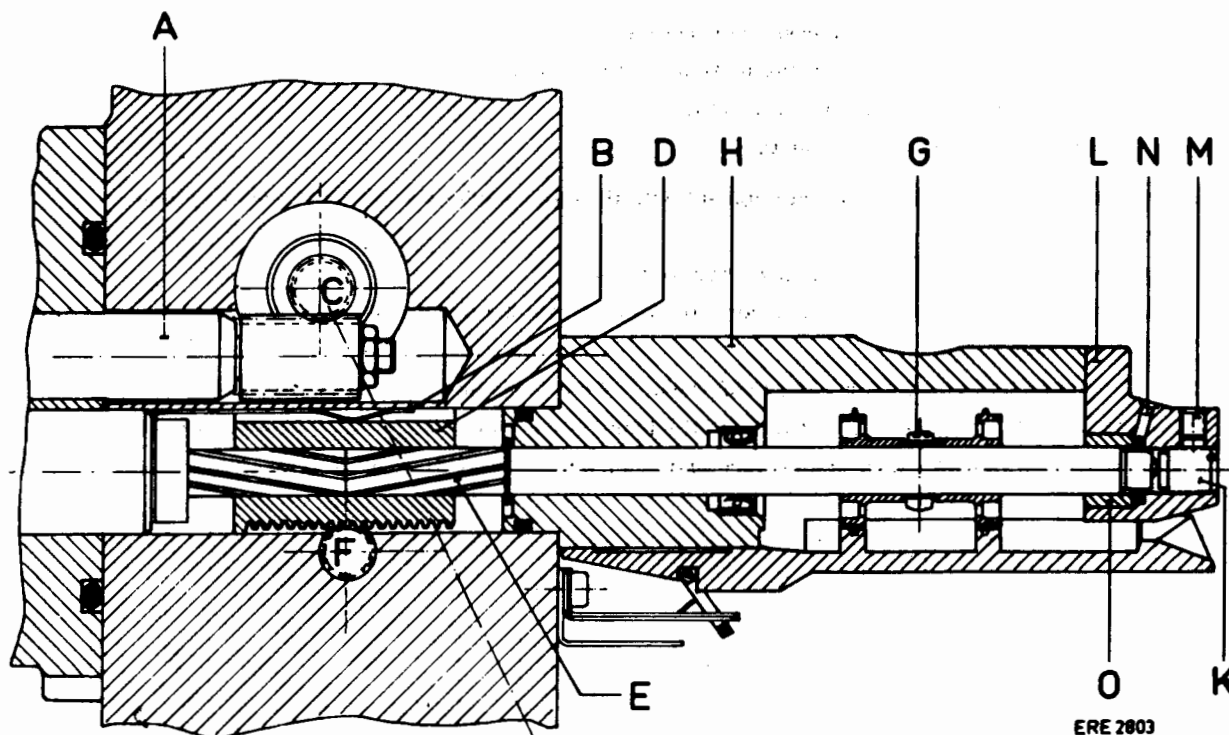
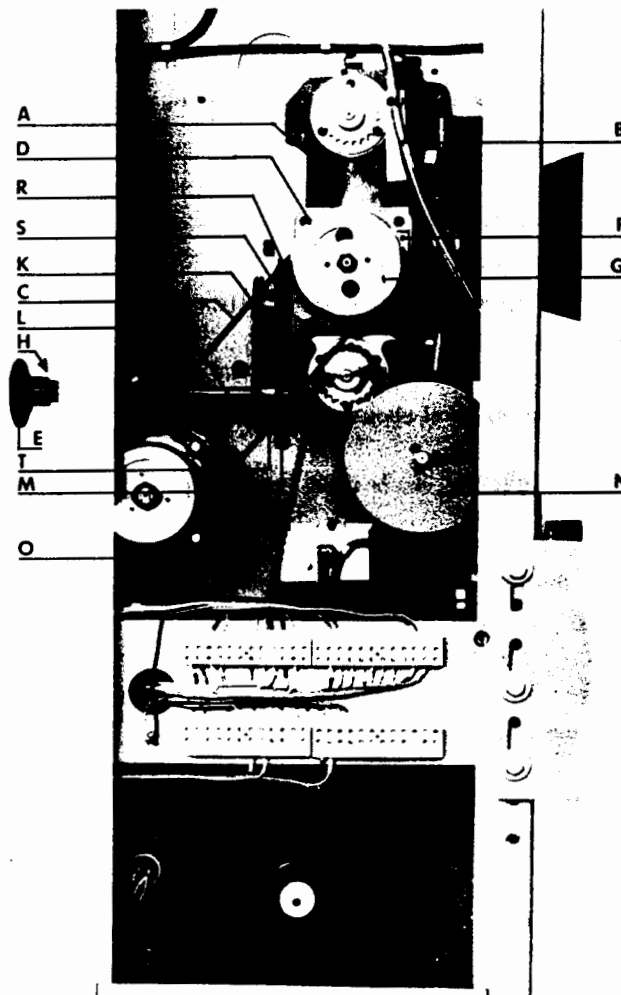

Fig. 3
Fig. 4
- . Drain the oil from projector mechanism A, Fig. 4 via transparent plastic tube B, Fig. 4.
- . Remove the motor belt C, Fig. 4.
- . Loosen the 4 screws D, Fig. 4.
- . Turn framing knob E, Fig. 4 as far as possible clockwise.
- . Carefully pull intermittent unit F, Fig. 4 out of the projector mechanism. Ensure that leaf spring B, Fig. 3 does not drop into the projector.
- . If framing bushing D, Fig. 3 remains in the projector mechanism, disassemble this mechanism as follows.
- . Position leaf spring B, Fig. 3 in the groove, bent part down.
- . Subsequently, slide the intermittent unit into the projector mechanism and simultaneously turn the framing knob E, Fig. 4 so that the teeth of the framing bushing engage the teeth of framing shaft F, Fig. 3.
- . After framing shaft F, Fig. 3 has engaged framing bushing D, Fig. 3 turn the flywheel G, Fig. 4 until the shaft of the intermittent unit is in an intermittent position (approx. mid position).
- . Press the intermittent unit as far as possible into the projector mechanism, simultaneously turning the flywheel G slightly to the left and to the right until the teeth of intermittent sprocket shaft E, Fig. 3 engage the nylon bushing of framing bushing D, Fig. 3. This is facilitated by turning the intermittent sprocket. Moreover, damage to the teeth is prevented.
- . Now press the intermittent unit completely into the projector mechanism. Ensure that the teeth of the sprocket shaft A, Fig. 3 can properly engage the teeth of the main shaft B, Fig. 18.
- . Turn the four screws D, Fig. 4 in (do not tighten).
- . Check the position of ring H, Fig. 4. The white line on this ring should correspond to the white dot on the projector housing, while the framing mechanism should be in the mid-position.
- . Check that the intermittent unit runs smoothly, also in the two extreme positions of the framing mechanism. If it does not in the extreme pos. turn framing knob E, Fig. 4 slightly back.
Framing bushing D, Fig. 3
Intermittent sprocket Fig. 3, page 10Disassembling
Pivot screw K for sprocket shaft, Fig. 3, page 10Adjusting
- . Hold the measuring gauge against the slide of the intermittent sprocket and turn framing knob E, Fig. 4 to and fro. The deflection on the gauge should be 0.01 mm (0.000393").
Bearing bushing O for sprocket shaft, Fig. 3, page 10Disassembling and assembling
Framing shaft, inner, Fig. 4, page 11Disassembling
Framing shaft, outer L, Fig. 4, page 11Disassembling
- . Remove flywheel N, Fig. 4, page 11
- . Adjust intermittent sprocket with knob E, Fig. 4 to the beginning of an intermittent cycle.